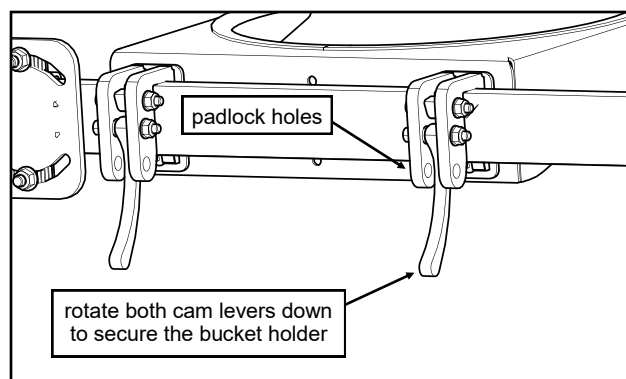

Fig. 3 (cam lever in the closed position)
3. To secure the bucket holder to the Tool Bar, rotate both cam levers DOWN until they cam over. See fig. 3.
NOTE: For additional security, the bucket holder can be locked to the Tool Bar by inserting a padlock through the holes in the mounting bracket where shown in fig. 3.